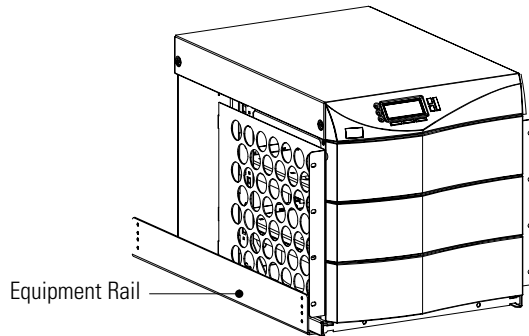

Figure 11. Rails Holding UPS
7. Install one equipment rail on each side of the rack using four 10-32 \times $1/2$ " flat-head screws per rail. Select the proper holes in the rail that position the UPS at the desired location in the rack (see Figure 11).